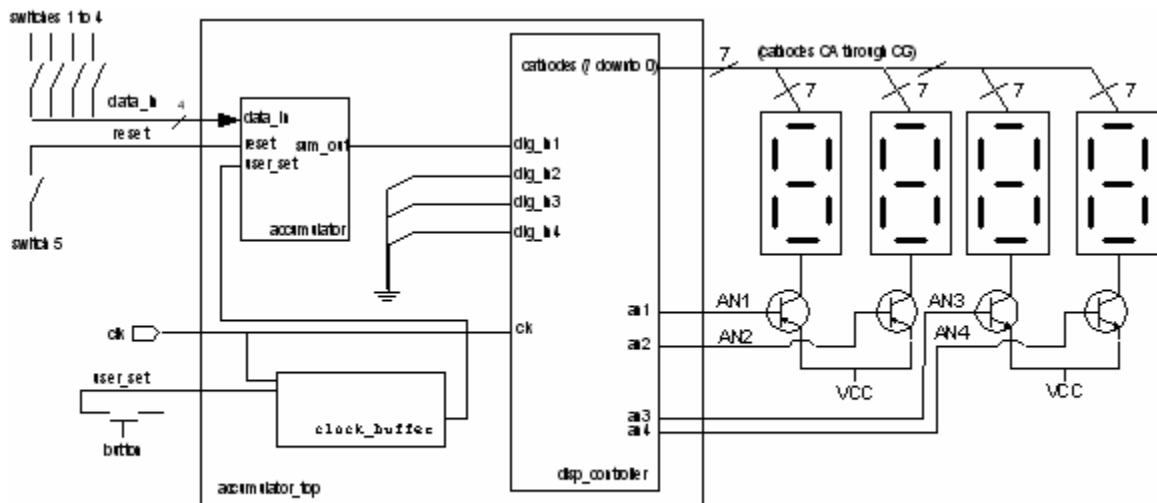

Figure 22. Final system schematic.
1. Add the file **clockbuffer.vhd** provided and attach it to your system following figure 22.